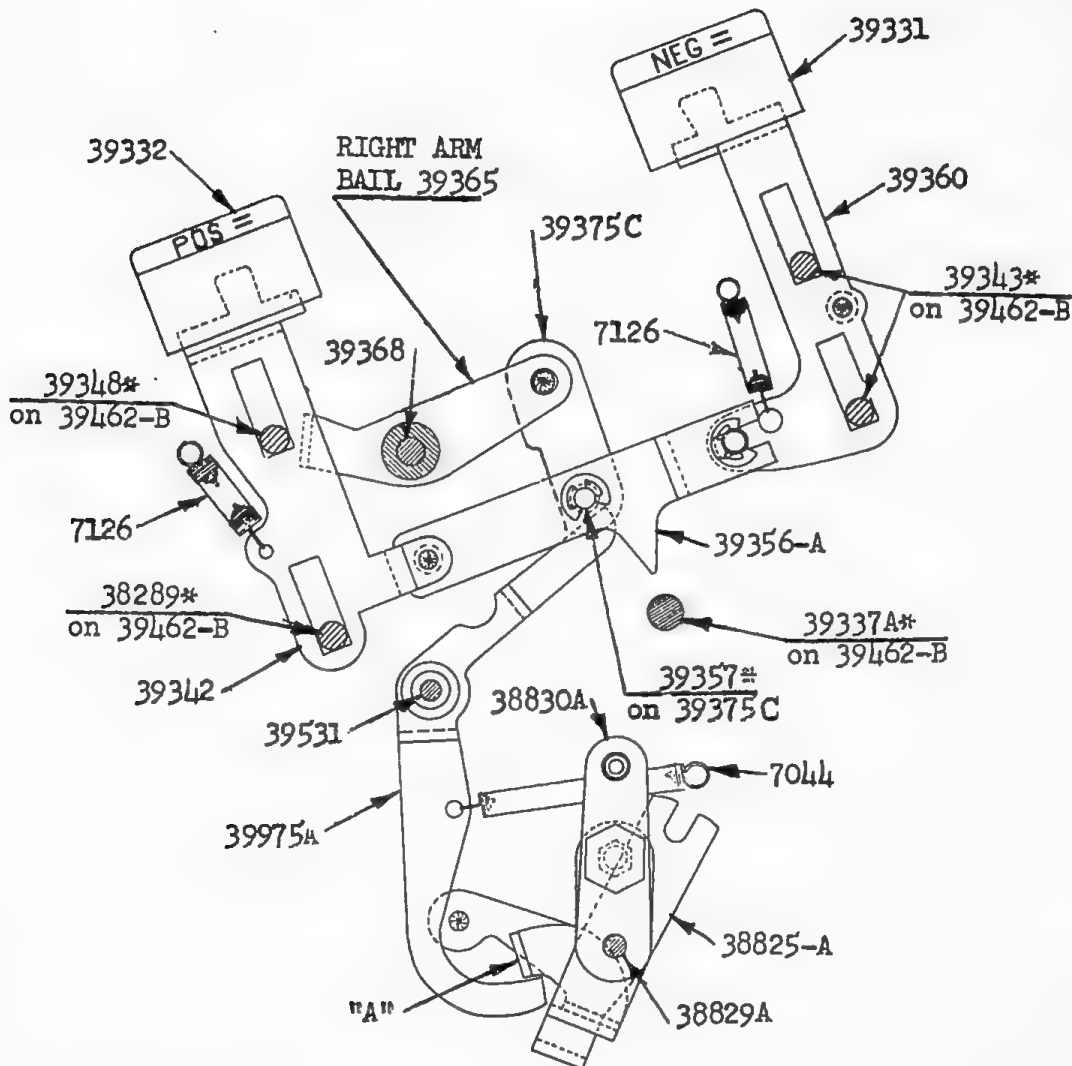

FIG. 43
1. (Fig. 43). During the Line-up shift off X-Key or any time thereafter, the multiplicand may be entered into the Keyboard. After the carriage has stopped an Equals Key is depressed to start the actual multiplication pro-
2. (Fig. 43). In all operations except the Equals operations the Multiplier Transfer Lever 39975A holds the ear "A" on the Transfer Bail-38825-A in its